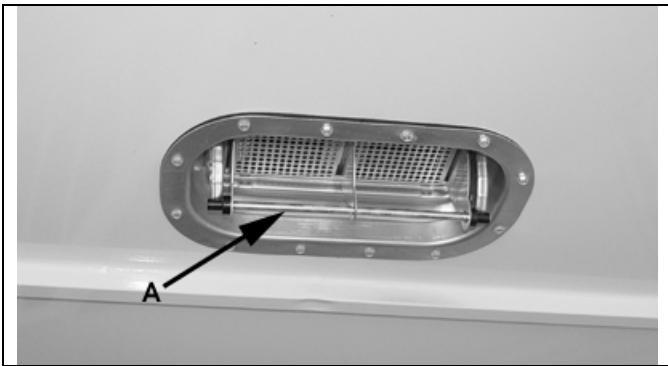

Figure 8-7 – Roof Vent
Your trailer may be equipped with roof vents to provide ventilation in the trailer. Move the vent latch (A) forward to vent air into the trailer, or rearward to vent air out of the trailer while traveling. See figure 8-7.